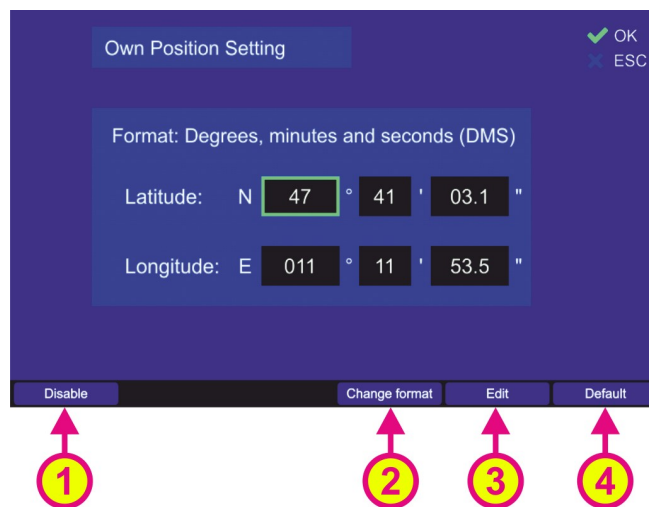

Fig. 124 Own GPS position dialog
- Choose the input format of the GPS coordinates by pressing the hotkey “Change format” (s. Fig. 124, position 2). It is possible to enter the own GPS position in DMS (degrees, minutes, and seconds) or in DD (decimal degrees) format.
- Press the hotkey “Edit” (s. Fig. 124, position 3) to start entering/changing the GPS coordinates by using the number keys and arrow buttons of the DCU. The decimal point is set automatically.
- Pressing the “Disable” hotkey (s. Fig. 124, position 1) deactivates using of the own GPS position and deletes its current value.
- Press the hotkey “Default” (s. Fig. 124, position 4) to use the default value (“Disabled” / no own position).